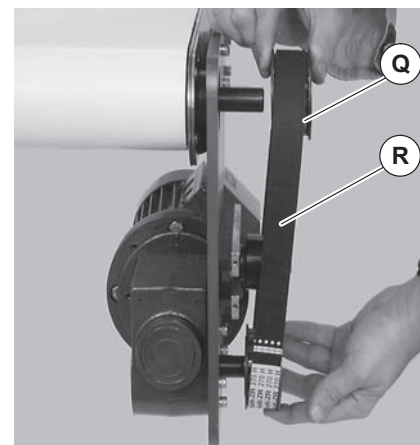

Figure 20
- c. Remove pulley (Figure 20, item Q) and timing belt (R).